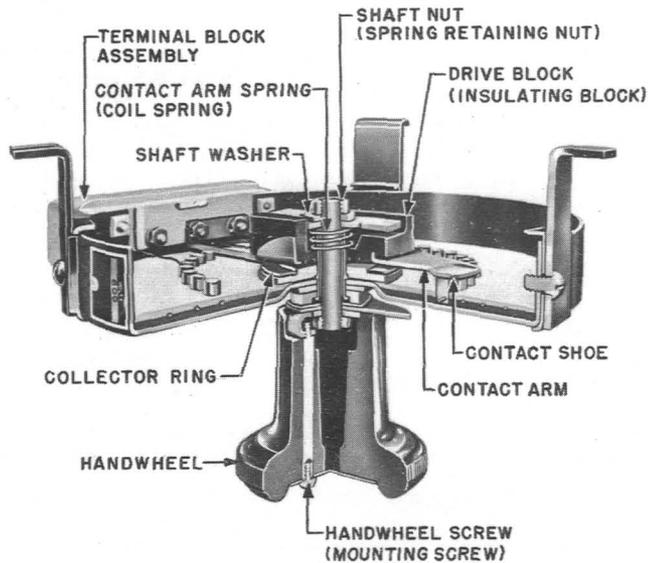

Fig. 2 - 6-, 8-, and 13-Inch Rheostat — Balanced Contact Arm Construction — Cutaway Section — KS-5661 Rheostat Illustrated
3.08 Handwheel: (Fig. 2) — Loosen the handwheel setscrew or mounting screws and remove the handwheel from the shaft. Position